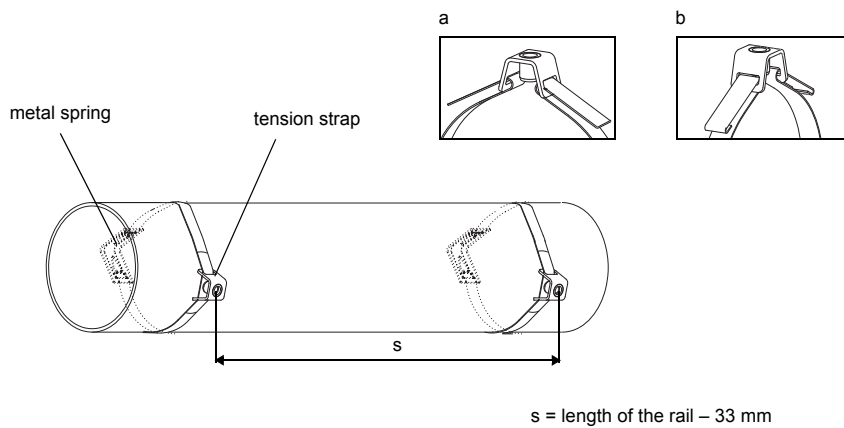

Fig. 8.34: Tension strap with metal spring and tension strap clamp on the pipe
- Place the tension strap around the pipe (see Fig. 8.34).
- Position the metal spring (if mounted) and the tension strap clamp (see Fig. 8.34):
- Insert the long end of the tension strap into the second slot of the tension strap clamp (see Fig. 8.34 a).
- Bend both ends of the tension strap (see Fig. 8.34 b).
- Repeat the steps for the second tension strap. Position the tension strap at the distance s (see Fig. 8.34).